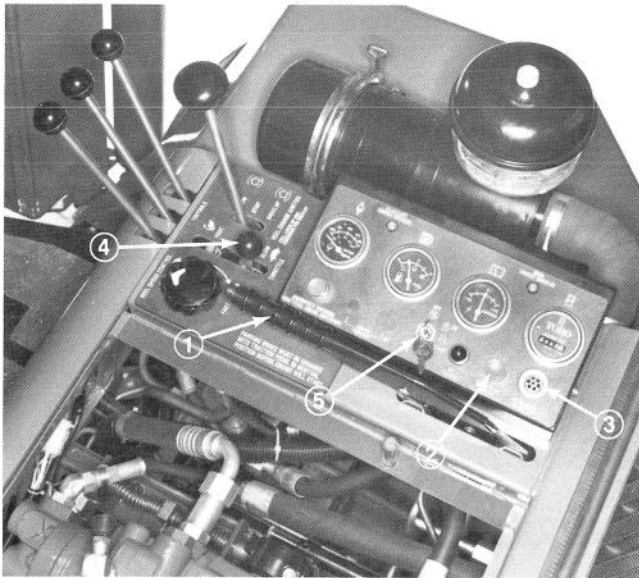

Figure 12
1. Sit on the seat, keep foot off traction pedal. Assure parking brake is engaged (Fig. 12). Traction pedal and mow/backlap lever must be in neutral.
2. If engine or air temperature is below 45°–50° F (7°–10° C), press and hold glow plug switch in until indicator burns brightly (Fig. 12). Then release switch and proceed to step 3 to start engine.
3. Move throttle to SLOW and turn ignition key to START (Fig. 12). Release key when engine starts.
1. Raise engine cover and use support rod to hold it open (Fig. 12).